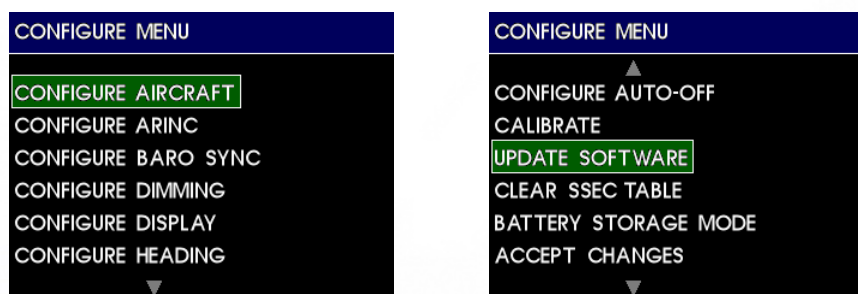

Figure 4.27
To enter the Configuration Mode, press and hold the control knob prior to applying power to the unit. After approximately six (6) seconds, the following message will appear: "CONTINUE HOLDING TO ENTER CONFIG MODE". After a few more seconds, the introduction screen will appear and the knob can be released. You will now see the CONFIGURE MENU. (Figure 4.27)